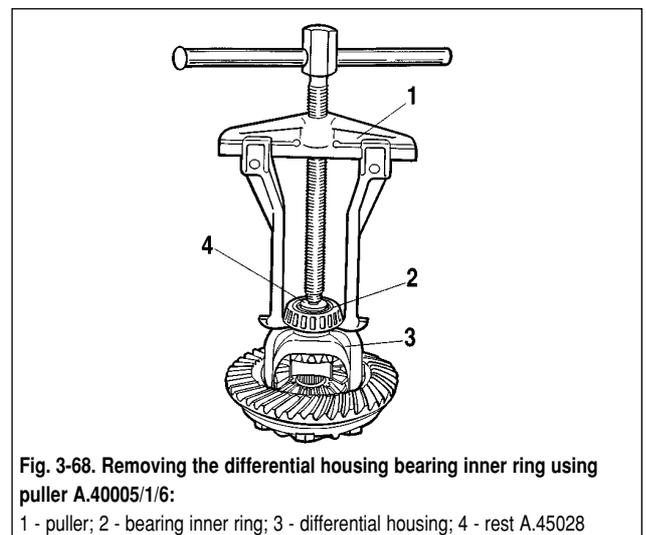

Fig. 3-68. Removing the differential housing bearing inner ring using puller A.40005/1/6:
- remove inner rings 2 (fig. 3-68) from the differential box 3 roller bearings with the help of a universal puller A.40005/1/6 and rest A.45028;